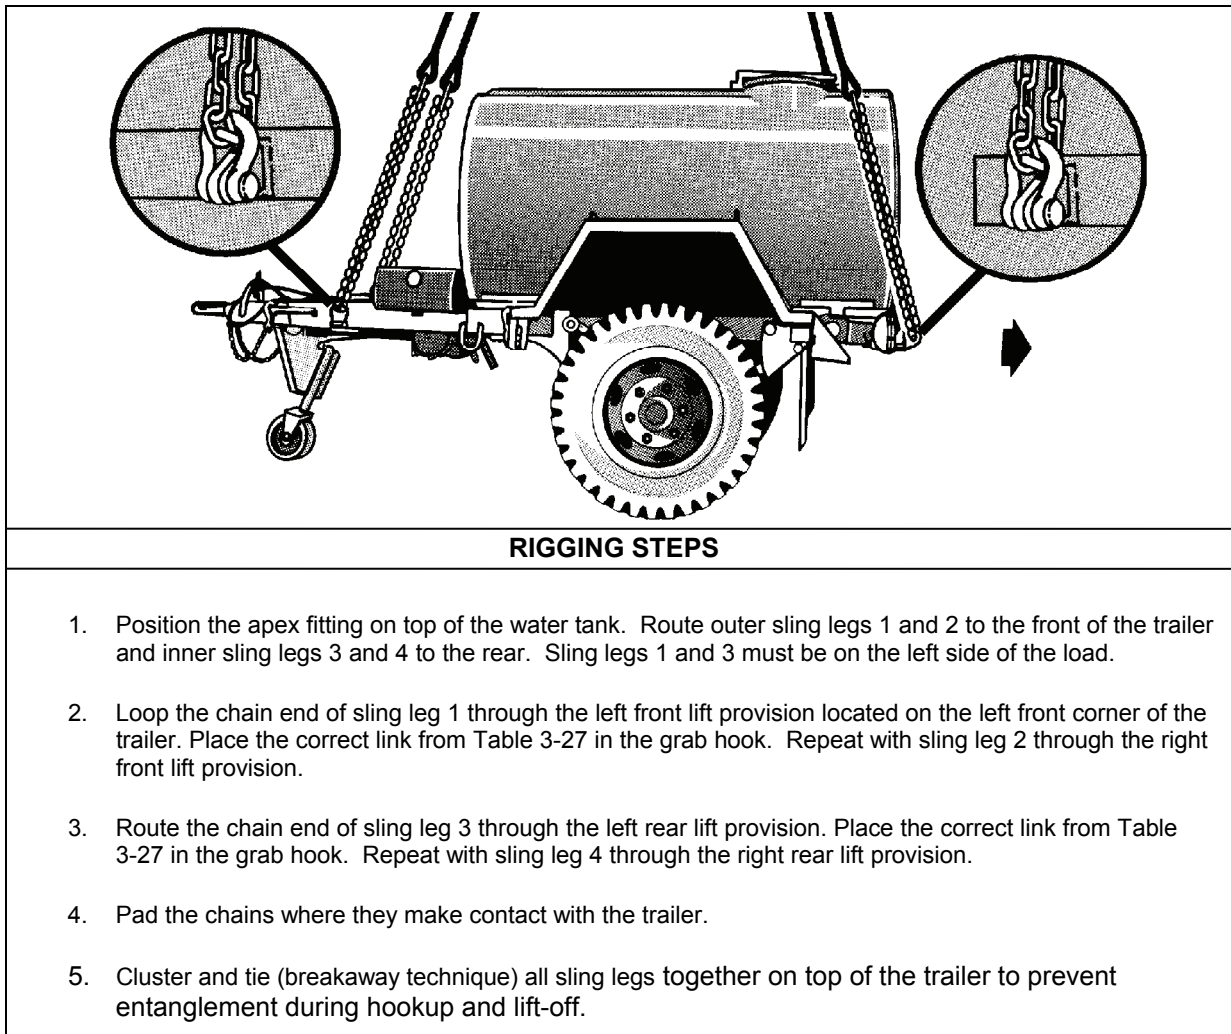

Figure 3-27. M1112 400 Gallon Water Trailer
- **Rigging.** Rig the load according to the steps in Figure 3-27.